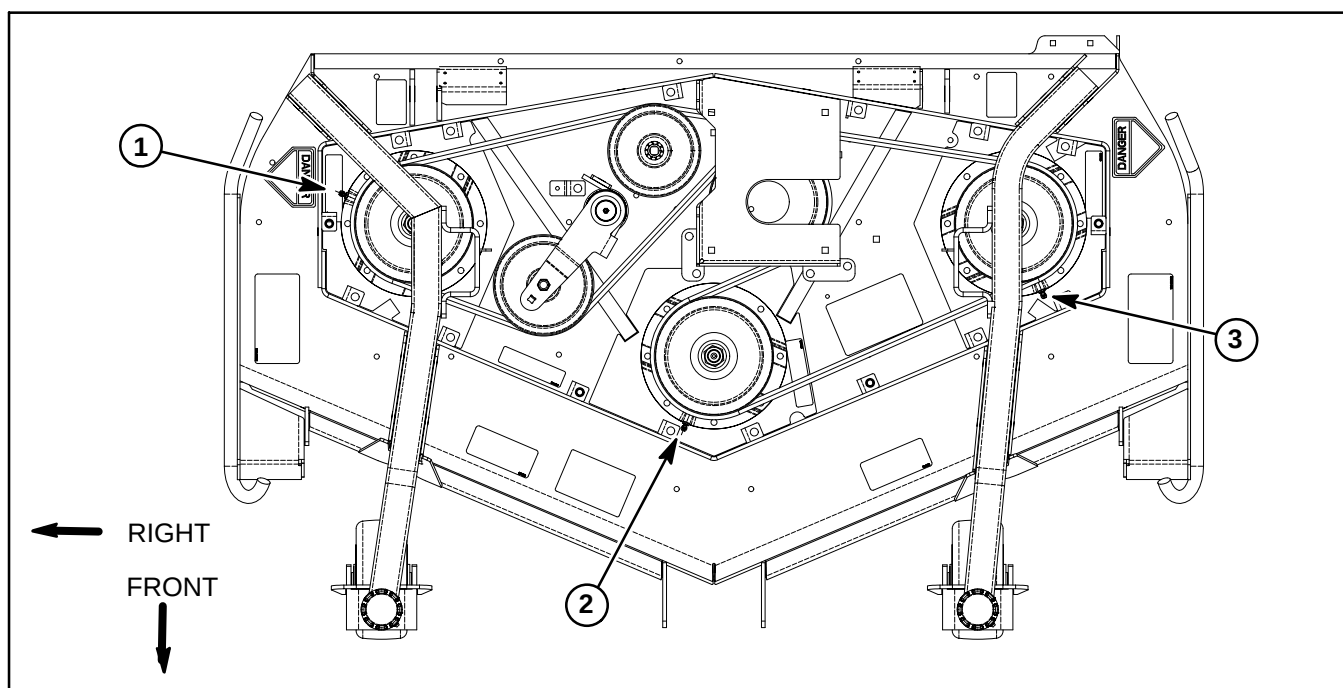

Figure 3
1. Position spindle on cutting deck noting orientation of grease fitting (Fig. 3). Secure spindle assembly to deck with eight (8) flange head screws and flange nuts.